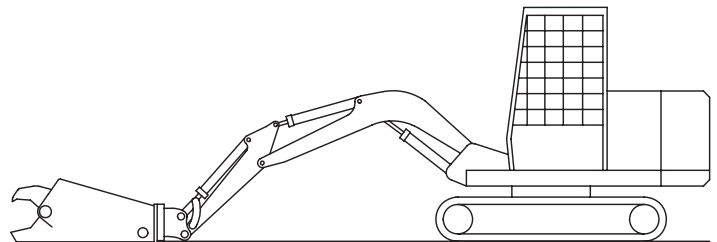

FIGURE 3-7
6. Stand clear and instruct the operator to set the shear flat on the ground (figure 3-7).